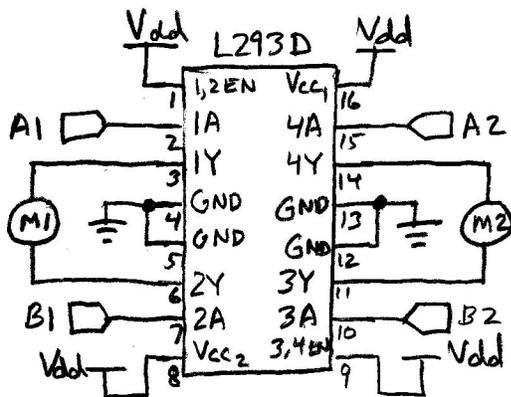

Figure 4.6. 2-motor H-bridge circuit using an L293D.
3. It should come as no surprise that there are integrated H-bridge circuits. One example is the L293D, which can control 2 motors at 1 A each, and includes internal clamp diodes. Build the circuit shown in Figure 4.6. Write a program that drives both motors full speed one way, then full speed the opposite way, for periods of 3 seconds each.